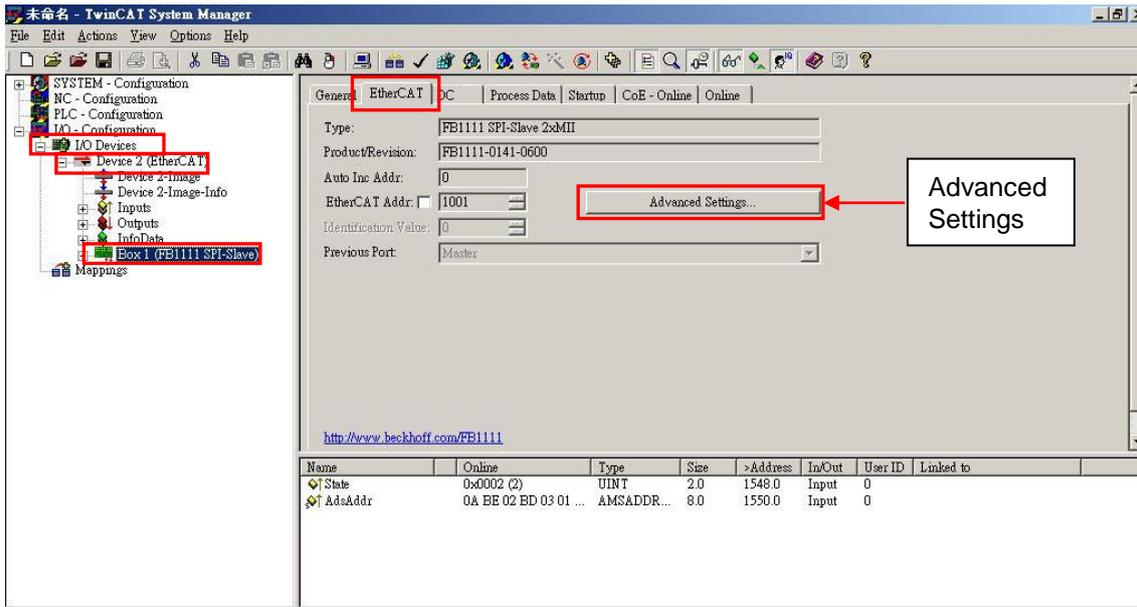

Fig. 5-19
- (1) Execute Steps (1)-(6) given in Section 5.2.1.
- (2) Select “Devices 2 (EtherCAT)” in “I/O Devices” at the left side of TwinCAT main window. There is one sub-item of “Box 1 (FB1111 SPI-Slave)” or unknown device. After selecting device needed to update EEPROM, press the button of “Advanced Settings” on “EtherCAT” tab at the right-side window, as shown in Fig. 5-19.